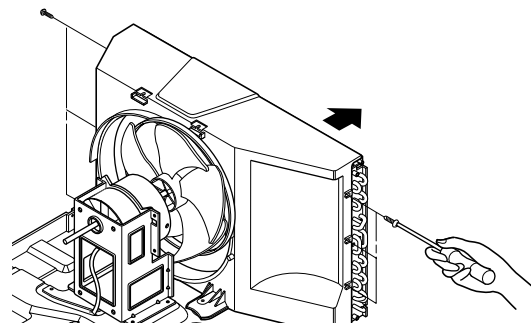

Figure 28
6. Re-install the components by referring to notes. (See Figure 28)